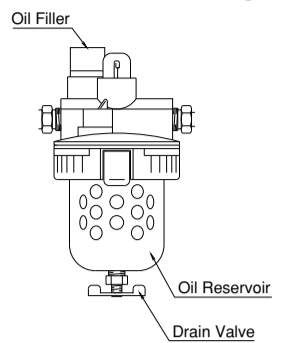

Fig.18
### ④ Remove Oil and Moisture Regularly (Fig.18)